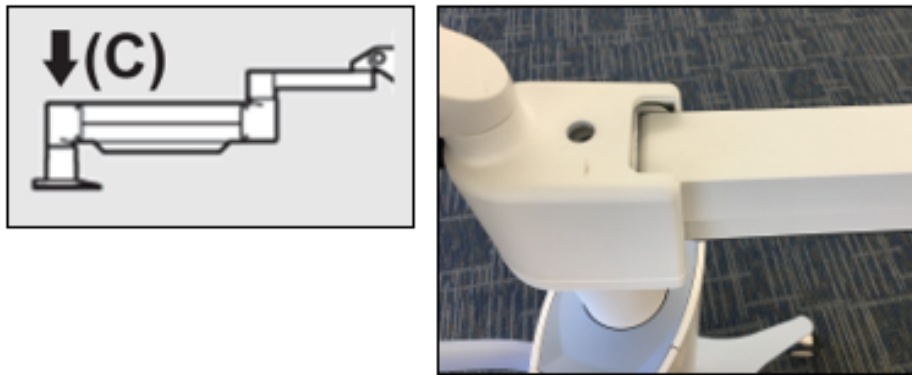

Figure 4-5. Set Arm Tension with Strength Adjustment Screw C
- Set the arm tension with the Strength Adjustment Screw C. Use a 7/32 Allen Wrench and turn the Screw C counter clockwise until the arm just begins to move slowly upward. There should be a slight bounce-back when the arm is lightly tapped down after adjustment. See Figure 4-5.